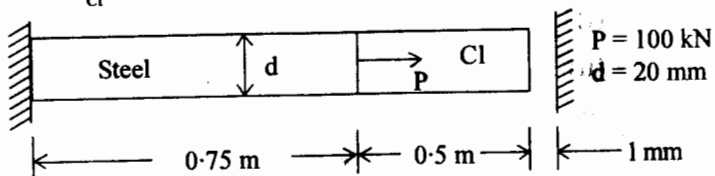

Fig. 13
- (b) A compound bar made of steel and CI shown in Fig. 13 has a gap of  $1 \text{ mm}$ . If  $E_s = 200 \text{ GPa}$  and  $E_{CI} = 105 \text{ GPa}$ , find the stresses in the bars.